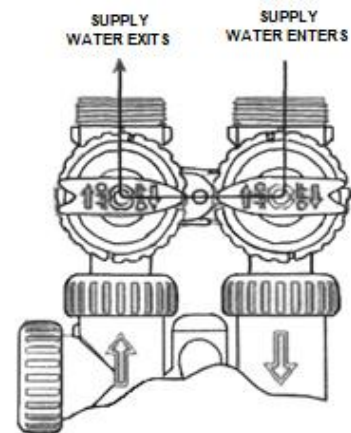

Figure 2
2. **Bypass Position:** The inlet and outlet handles point to the center of the bypass. The system is isolated from the water pressure in the plumbing system. Untreated water is supplied to the building. **(Fig 2)**